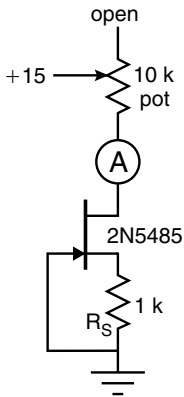

Fig. 5.5. Self-biasing JFET current source.
- ▷ Hook up the circuit shown in Fig. 5.5 and measure the dependence of the drain current on the drain–source voltage as you adjust the pot; record and plot your measurements.